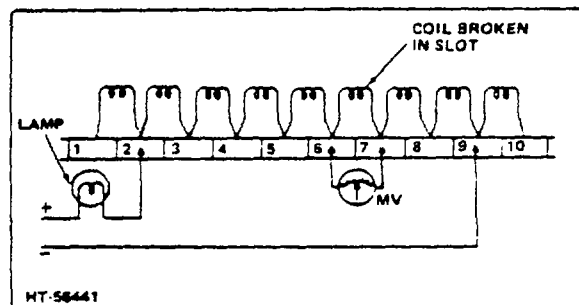

Figure 7-2. Method of Locating an Open Coil
- a. Place the armature on "V" blocks and connect a source of direct current to the commutator. (Use the circuit of Fig 7-2.)
meter leads as illustrated in Figure 7-2.